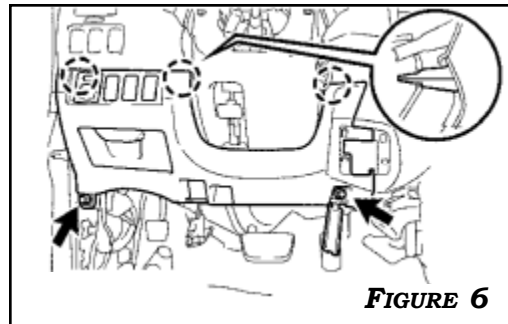

FIGURE 6
5. RELEASE THE 3 CLIPS AND REMOVE THE LOWER INSTRUMENT PANEL FINISH PANEL. **FIGURE 6**